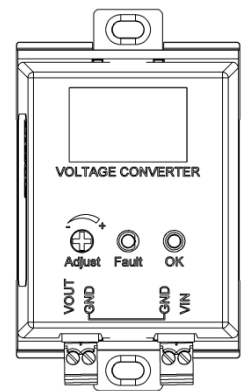

Figure 7: EZ-Mount with mounting tabs extended
1. If not showing, pull the blue mounting tabs out as shown in Figure 7.